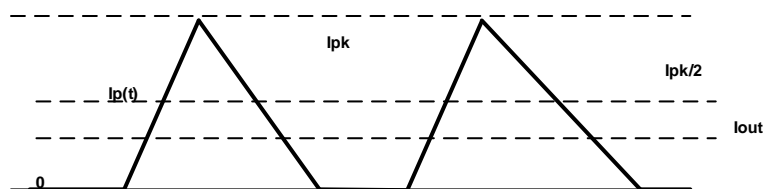

Figure 5 Inductor current waveform
The internal MOSFET turns off when  $I_{P(t)}$  rises to  $I_{PK}$  (see Figure 5). The output current is calculated with Equation (5):